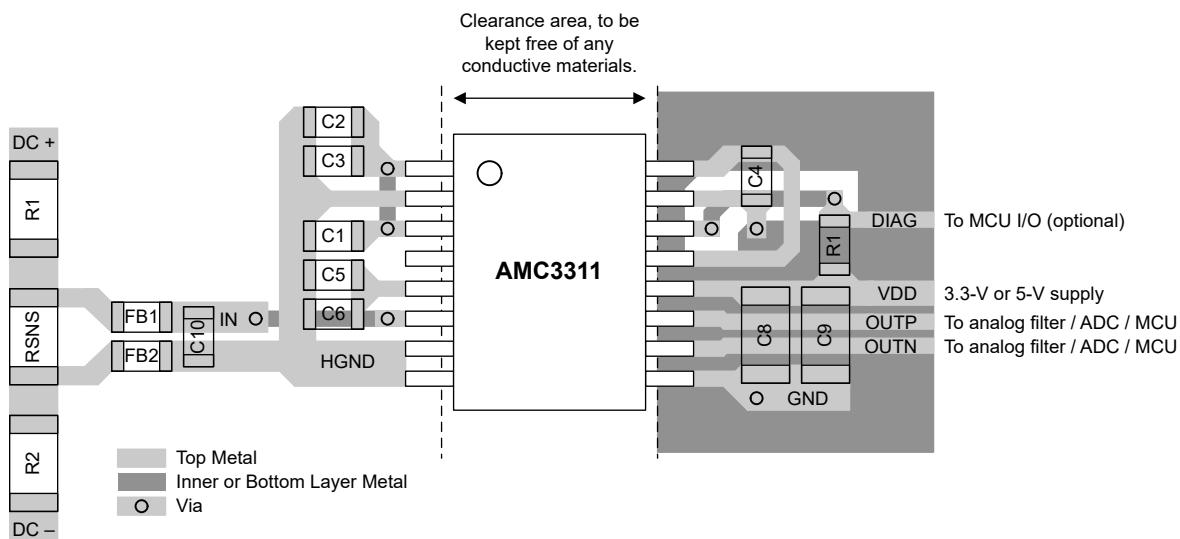

Figure 8-6. Recommended Layout of the AMC3311
Figure 8-6 shows a layout recommendation with the critical placement of the decoupling capacitors (as close as possible to the AMC3311 supply pins) and placement of the other components required by the device. For best performance, place the sense resistor close to the device input pin (IN).